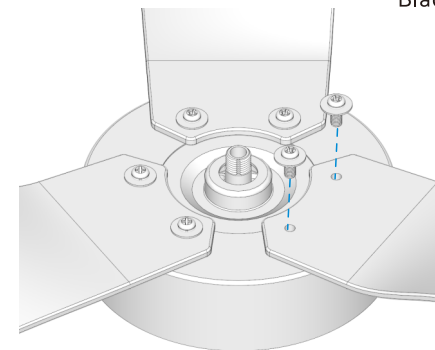

Fig. 2.2
2.2 Align two blade holes with the corresponding screw holes on the motor head, and secure the blades using the blade screws. Perform the same steps for the remaining blades. The completed blade installation is displayed in Fig. 2.2.